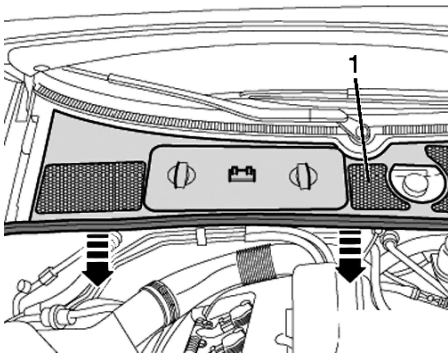

Fig. 1 Plenum chamber removal
4. Remove rubber seal from plenum chamber cover in direction of (arrow), **Fig. 1**.
5. Remove plenum chamber cover (1) from front, **Fig. 1**.